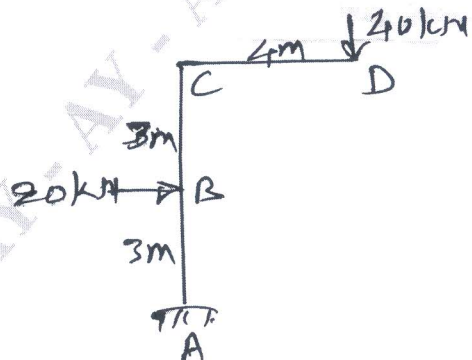

Fig Q6(a)
- 6 a. Determine the horizontal deflection at D for the frame shown in Fig Q6(a) by Castiglione's theorem. Take EI constant. $E = 2 \times 10^5 \text{ N/mm}^2$, $I = 8 \times 10^8 \text{ mm}^4$.